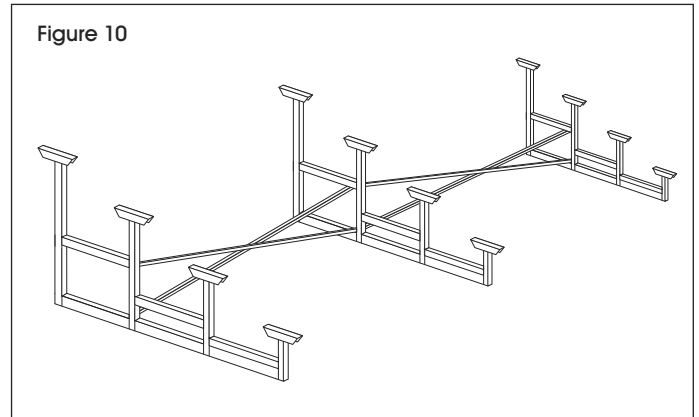

Figure 10
5. At this point frame is able to stand up on its own. Make sure the frame is straight, square and level. Tighten all 3/8" bolt connections with socket wrench. (See Figure 10)